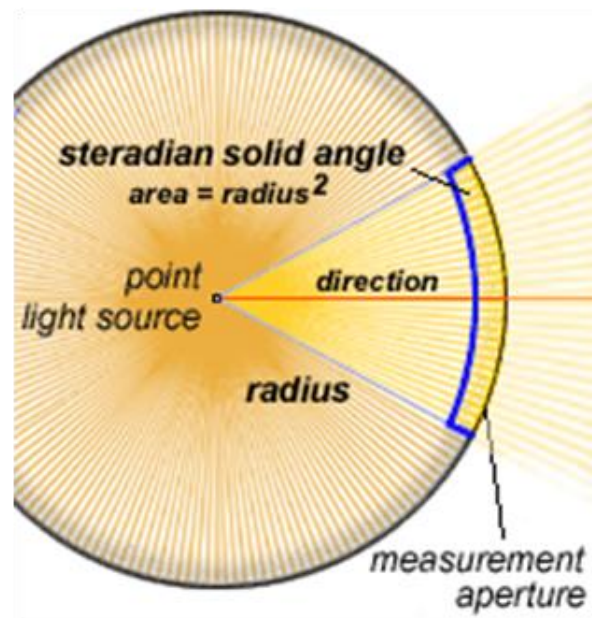

Fig. PF-7-1-3
- **Fig PF-7-1-3** shows a point source of one lumen radiating into a solid angle of one Steradian defining a Luminous intensity of one candela